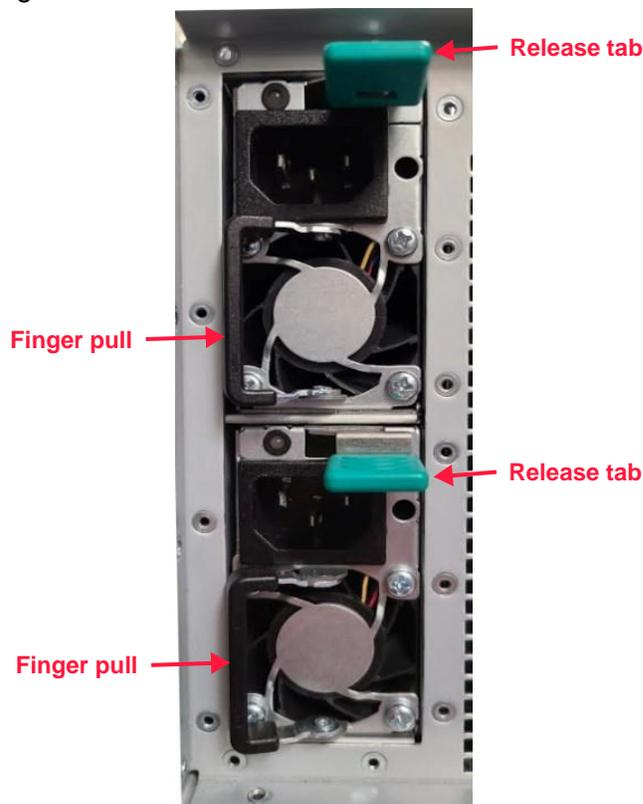

Figure 3.22 Correctly installed PSUs
1. Slide the first PSU into one of the vacant PSU slots on the rear of the enclosure. Ensure the PSU is in the same orientation as it was on removal. The finger pull should be on the bottom and the release tab on top as shown in Figure 3.22.